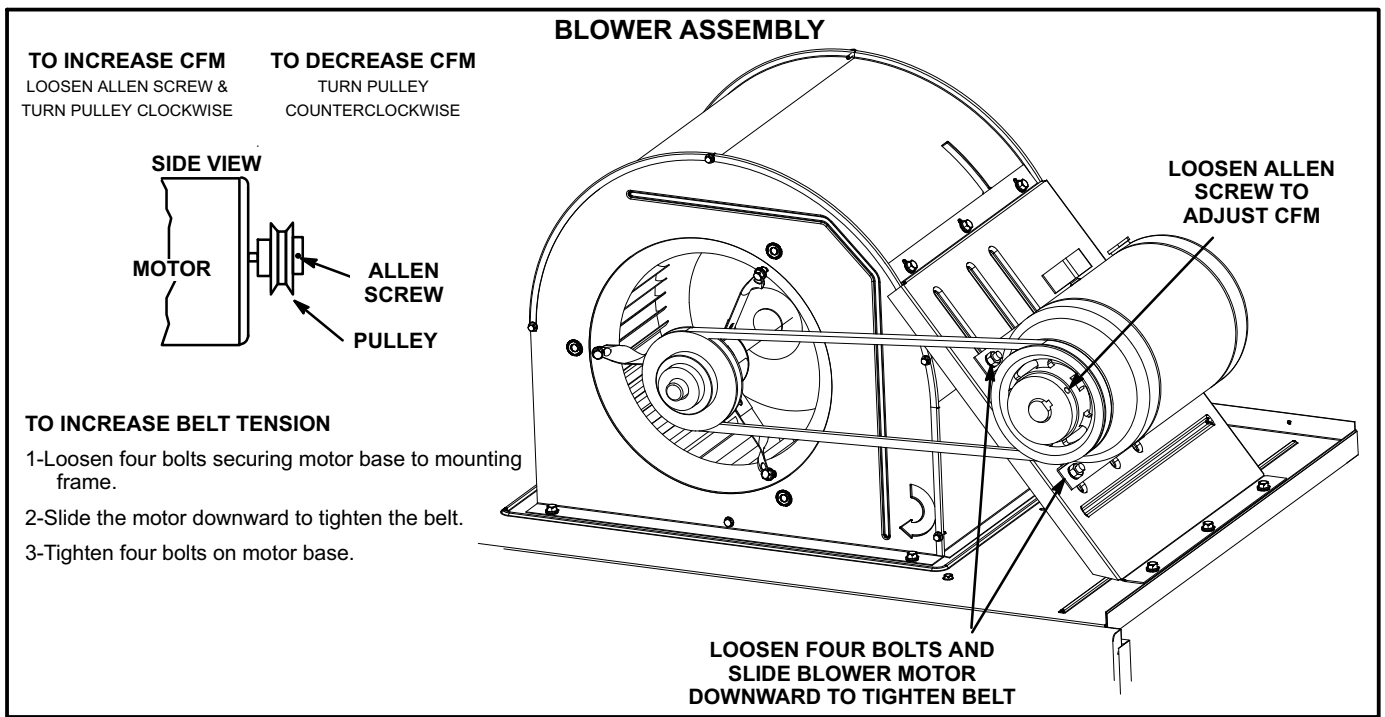

FIGURE 8
- 5- The blower RPM can be adjusted at the motor pulley. Loosen Allen screw and turn adjustable pulley clockwise to increase CFM. Turn counterclockwise to decrease CFM. See figure 8. Do not exceed minimum and maximum number of pulley turns as shown in table 3.
- 1- Loosen four bolts securing motor base to mounting frame. See figure 8.